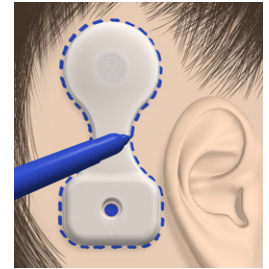

Fig. 5: Marking of OSI200 and BI300 Implant
2. Use the OSI200 Implant template to plan the correct position and mark it on the skin (Fig. 5).